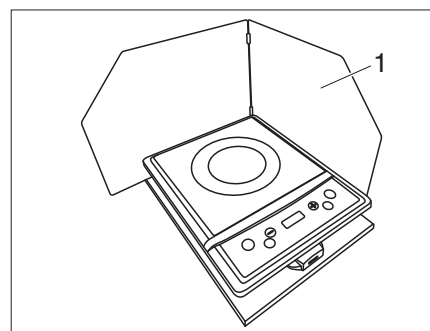

Figure 31 Installer la protection anti-projections
- Récupérer la protection anti-projections (Figure 31, 1) et la mettre en place.